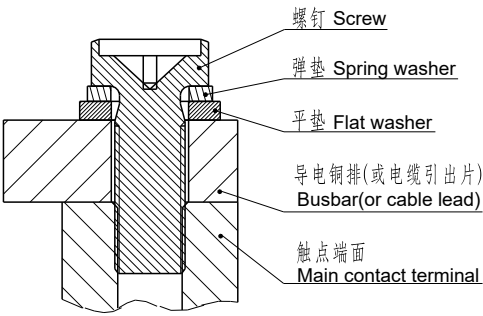

图1(Fig1)
- 当产品使用1个及多个导电铜排连接时, 请确保导电铜排与触点端面紧密贴合（多个铜排需确保大电流的导电铜排最贴近触点端面, 小电流的导电铜排其次）, 然后是平垫圈、弹簧垫圈、螺钉。不正确的连接顺序可能造成严重过热, 参考下图1:
When the product is connected with one or more conductive copper bars, please ensure that the conductive busbars closely fit the contact terminal surface (The conductive copper bars with high current must be closet to the contact terminal surface if there are multiple copper bars and then conductive busbars with low current), followed by flat washers, spring washers and screws. Incorrect connection sequence perhaps give rise to severe overheating. Refer to Figure 1 as follows: